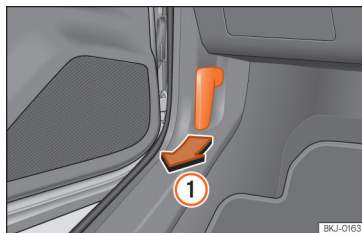

Fig. 177 Release lever in the driver's footwell area.
- Open the door and pull the lever that is underneath the instrument panel »»» **Fig. 177 ①**.